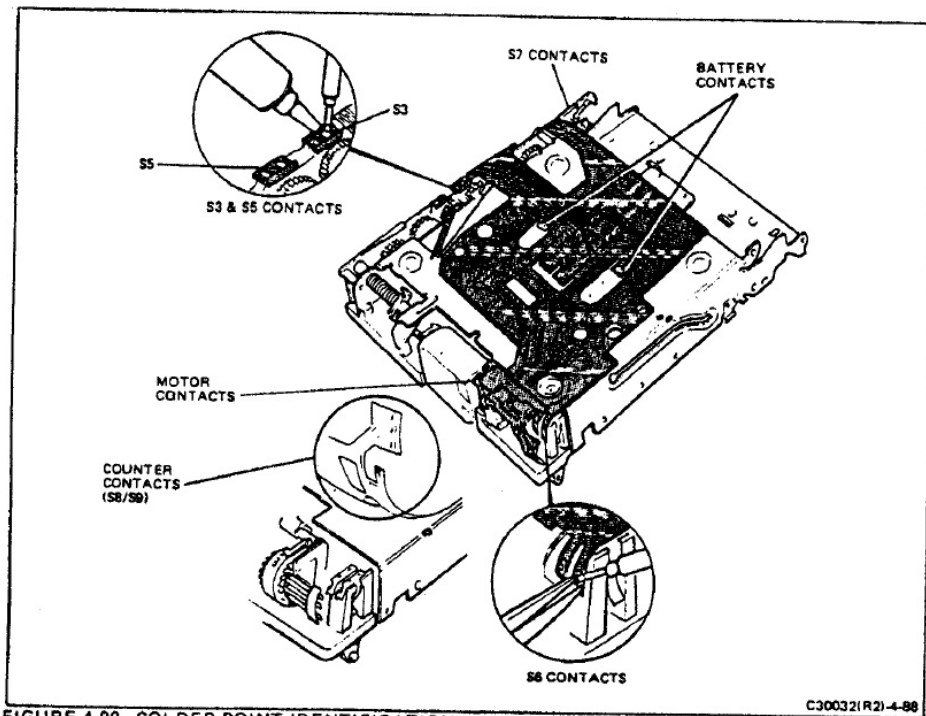

FIGURE 4-88 SOLDER POINT IDENTIFICATION
6. Referring to Figure 4-88 for the location of flex circuit contacts, unsolder the following contacts: (Use a solder-gobbler with the soldering iron and tweezers to help separate the contacts.)
NOTE: In the remaining steps, refer to Figure 4-88 for the location of contacts mentioned.